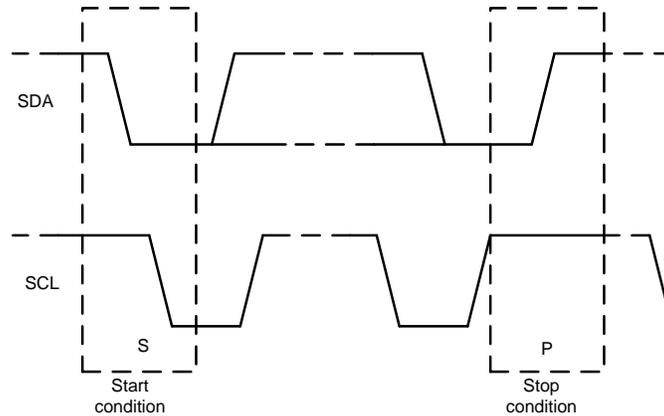

Figure 7. Start and Stop Conditions
1. The master initiates data transfer by generating a start condition. The start condition is when a high to-low transition occurs on the SDA line while SCL is high, as shown in Figure 7. All I²C-compatible devices recognize a start condition.
4. To signal the end of the data transfer, the master generates a stop condition by pulling the SDA line from low to high while the SCL line is high (see Figure 7). This action releases the bus and stops the communication link with the addressed slave. All I²C-compatible devices recognize the stop condition. Upon receipt of a stop condition, the bus is released, and all slave devices then wait for a start condition followed by a matching address.